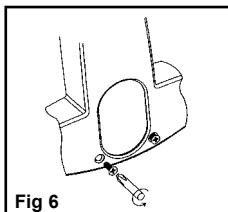
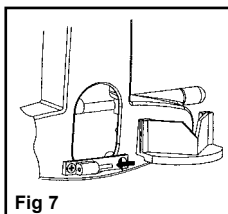

Fig 6
Fig 7
- A.** Remove the screws from the panel beneath the front window with the screwdriver supplied. (fig 6)
1. Fit the mounting bar with the pin pointing to the right and secure with screws removed in step (A) (fig 7). Slide the teaching mirror onto the pin on the mounting bar. The teaching mirror can now be swivelled up and down.
1. Remove the screws as in fig 6 above. Position the mounting bar and replace the screw on left side only. Fit the teaching mirror as in fig 7.